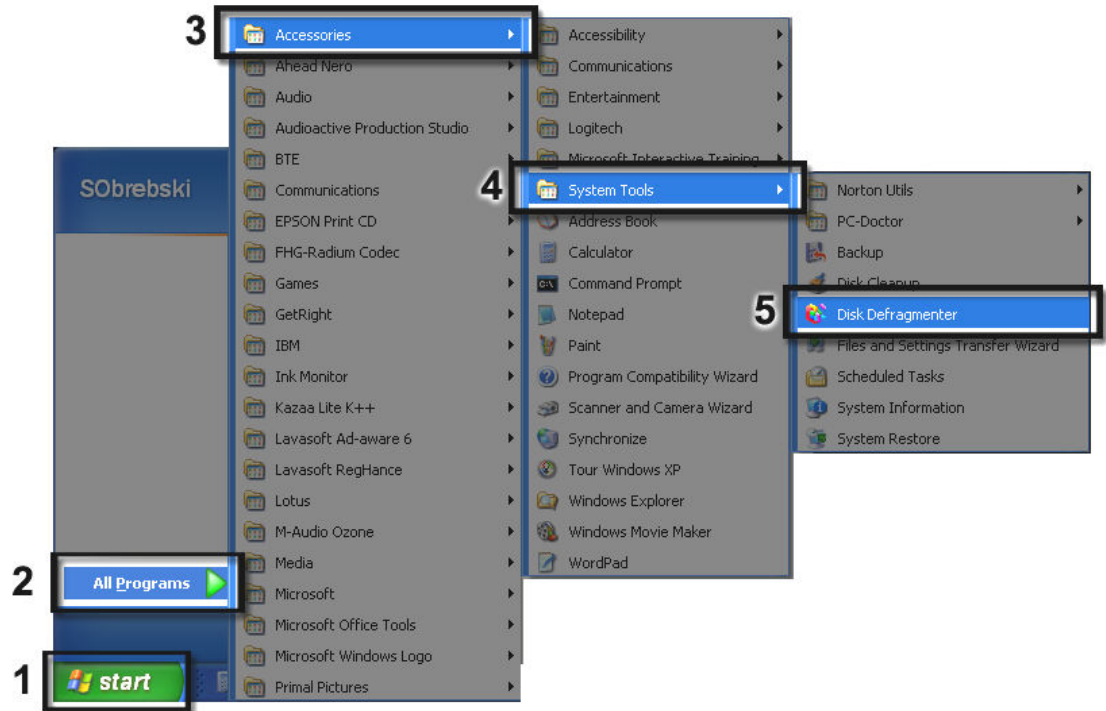

Figure 10a
- Step 1. Click the **“Start”** button at the bottom left corner of the screen (Figure 10a -1).
- Step 2. Move your cursor over the **“All Programs”** option menu (Figure 10a -2). This will expand a large menu to the right.
- Step 3. Move your cursor over **“Accessories”** (Figure 10a -3). This will expand another menu.
- Step 4. Now move your cursor over **“System Tools”** (Figure 10a -4). This will expand yet another menu.
- Step 5. Click **“Disk Defragmenter”** (Figure 10a -5) from this menu.